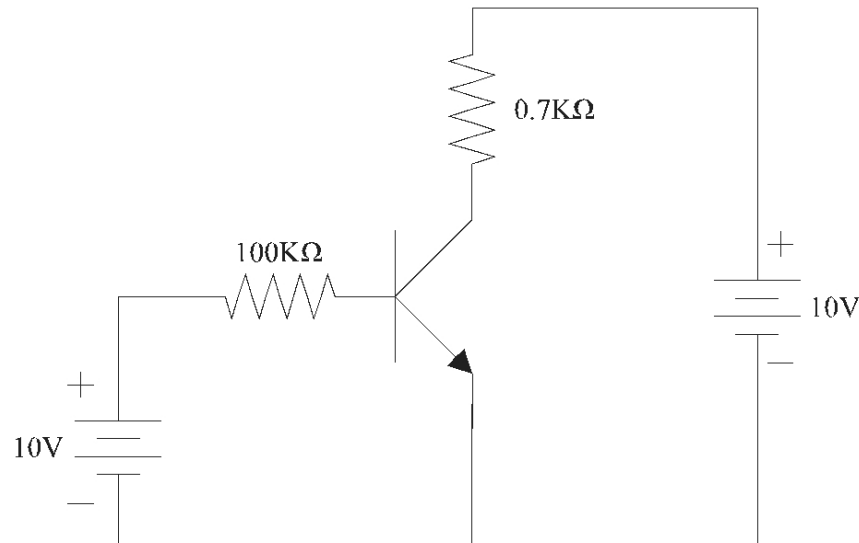

Figure 4-33. Circuit of exercise 4.12.
4.12. Consider the circuit shown in figure 4.33.
4.13. If the base resistor in the circuit of Figure 4.33 is changed to $200\text{K}\Omega$, what would be the new operating point?
4.14. If the voltage V_{CC} in the circuit of Figure 4.33 is increased to 15V, how does the operating point change?